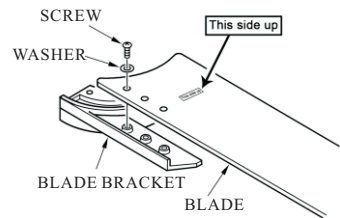

FIG.10
1. Install the screw, washer, blade and blade bracket together & tighten them securely. (See Fig.10)